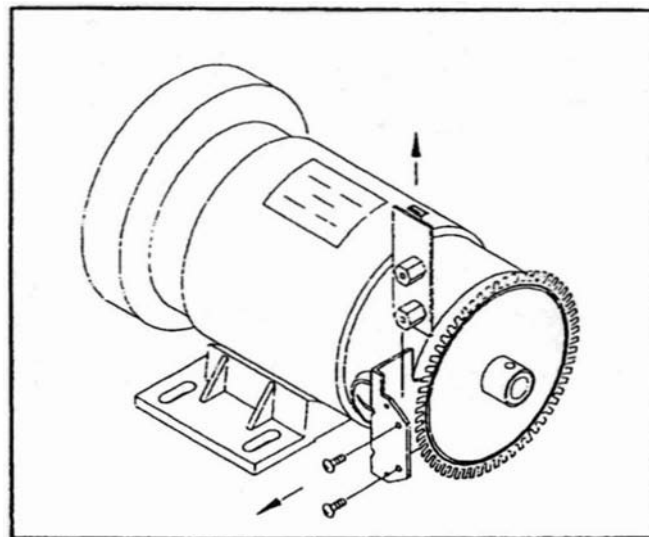

Fig.2
3. Loosen screws securing the optical switch and remove optical switch. (see Fig.2)